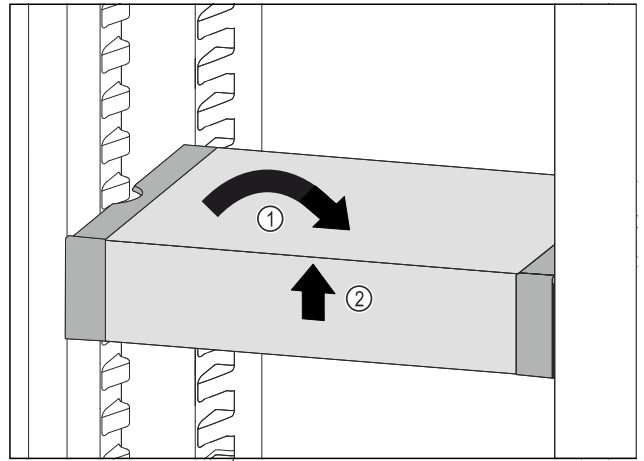

Fig. 108
- Set VarioSafe straight. *Fig. 108 (1)*
- Lift VarioSafe at the front. *Fig. 108 (2)*